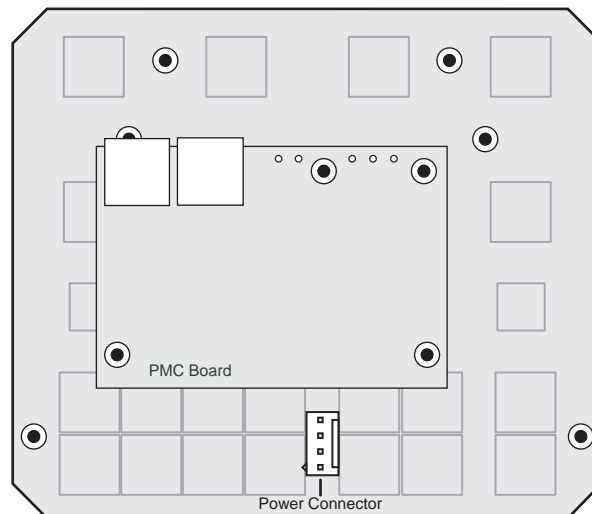

Figure 18.21 Effects Keyer Module — Power Connector
5. Disconnect the **Module Power Cable** from the module you want to remove (**Figure 18.21**). This 4-conductor ribbon cable delivers power to all the modules in the row, when removing it, ensure that you do not accidentally unplug it from any neighboring modules.